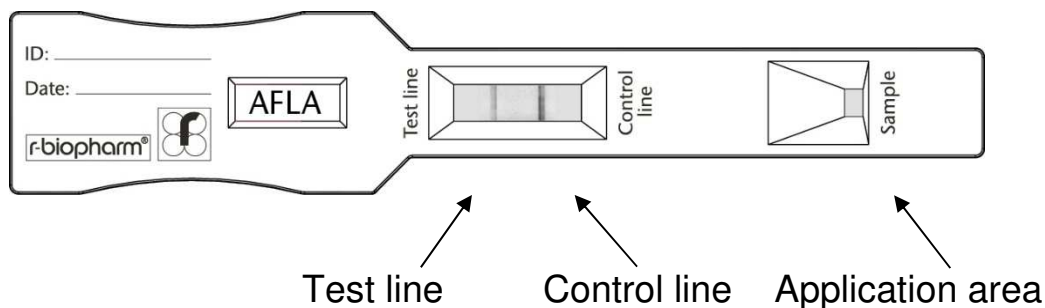

Fig. 1: RIDA®QUICK Aflatoxin RQS test strip.
- Apply 100 µl of prepared sample solution (particle-free solution or Dilution I, see 8. Sample preparation) to the application area of the test strip (see Fig. 1)
The left line in the reaction area is the test band (test line, see Fig. 1). Its appearance and intensity depends on the aflatoxin concentration of the sample. The sample is contaminated with aflatoxin, if the control band (control line) is visible and the test band (test line) is visible.